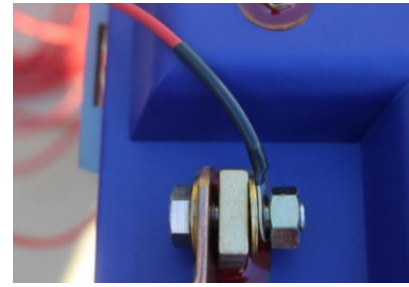

Figure 12: Bolt, washer, battery cable, positive terminal, washer, 5/16" heat-enable wire, nylok
8. Route the other end of the wires from the Heat Battery Kit to your battery bank. Place the 5/16" ring lug between the nylok nut and the washer, as seen in Figure 12. Be sure to tighten and torque all terminal connections to 10 ft-lbs.